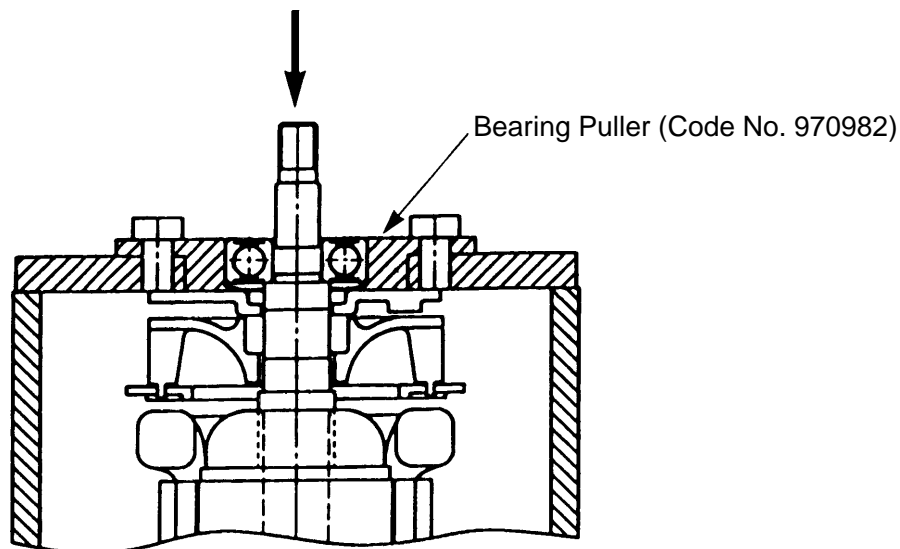

Fig. 4
- (5) Remove the four M5 x 16L Seal Lock Screws [28].
- (6) After removing the three M4 x 10 Seal Lock Screws [1], the Armature [13] can be extracted together with the Bearing Cover [12], and related parts.
- (7) Carefully wrap the Armature Ass'y [13] with a soft, clean rag to protect it from being damaged, and clamp it securely in a vise. Then, remove the M7 Special Nut [5], and extract the Pinion [6].
- (8) For the models indicated under Fig. 4, the Ball Bearing [9] can be removed from the Armature [13] by utilizing a J-204 Bearing Puller (special repair tool, Code No. 970982) as illustrated. After the Ball Bearing has been removed, the Bearing Cover [12] can be easily taken off.